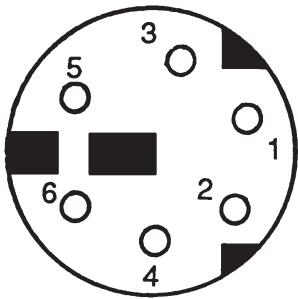

Figure 2
- 6 There are two shielded mini DIN connectors for connections to the rest of the network. These are in parallel and permit easy "daisy chaining" of multiple units. The connections are as follows and are shown in Figure 2.